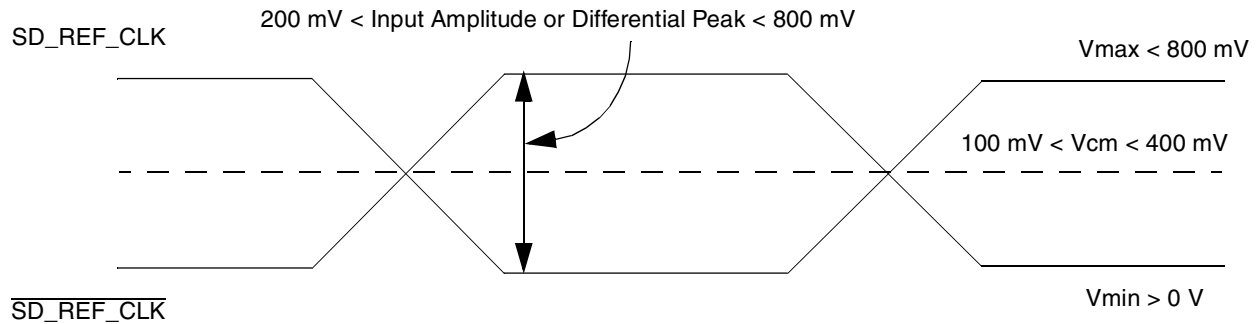

Figure 40. Differential Reference Clock Input DC Requirements (External DC-Coupled)
- For **external DC-coupled** connection, as described in section 15.2.1, the maximum average current requirements sets the requirement for average voltage (common mode voltage) to be between 100 mV and 400 mV. Figure 40 shows the SerDes reference clock input requirement for DC-coupled connection scheme.